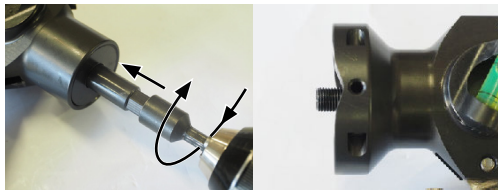

Fig. 3.1 Use your drill to fully extend the cutter end (above right) BEFORE cutter installation.
- 3.1 Extend the Drill Jig's cutter end / thread using your drill. Ensure to fully extend the cutter end (Fig. 3.1).